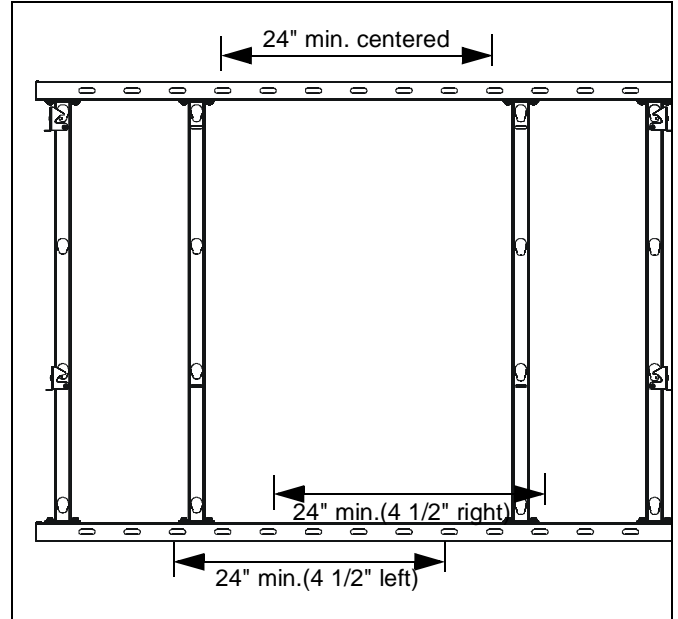

Figure 2
2. Determine mounting slots to be used for installation. (See Note below and Figure 2)
NOTE: Slots used must be at least 24" apart. Mount must be centered on anchors +/- 4 1/2". (See Figure 2)